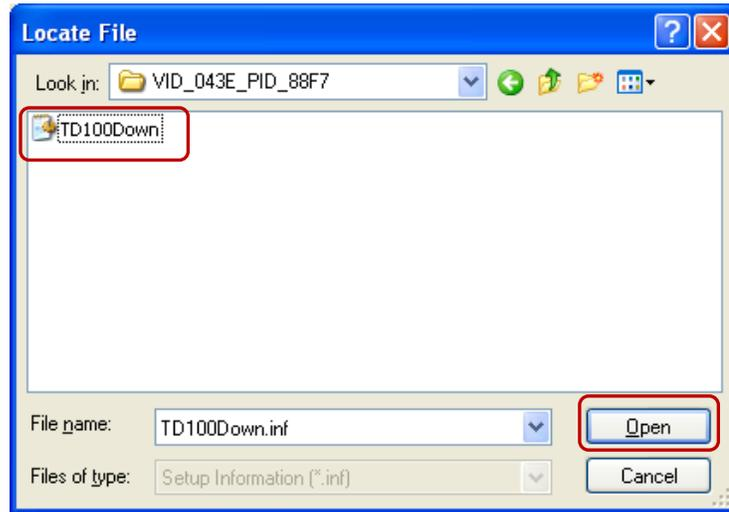

Fig. 11
- Determine the iCAM **TD100Down** driver you need to install based on the chart (found in Section 8.3 Step 1). For this example we will be updating the iCAM TD100 Vid\_043e&Pid\_88f7 Hardware: “/Program Files/Iris ID Systems/iCAM TD100 SDK/Drivers/TD100Down/VID\_043E\_PID\_88F7”, select “TD100Down.inf” and press > **“Open”** as shown in Figure 11.